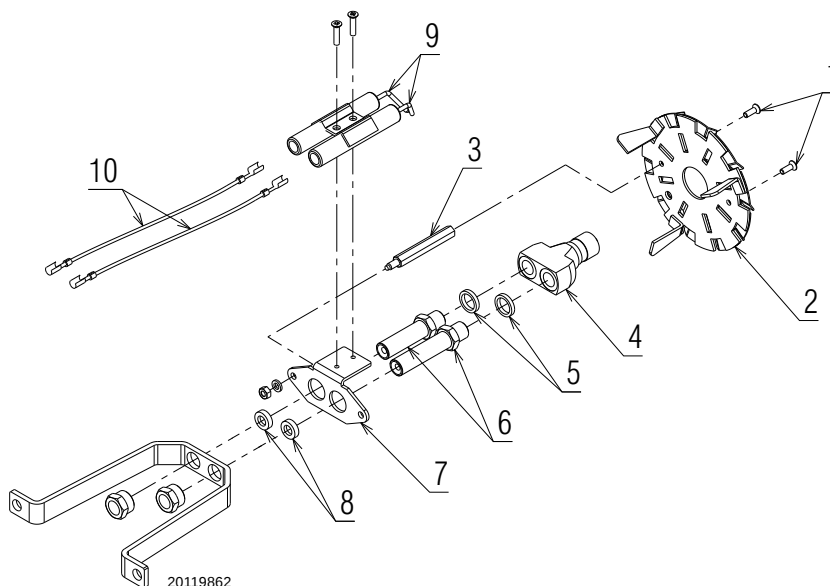

Fig. 5
- unscrew the two screws 1)(Fig. 5) and remove the diffuser disc 2);